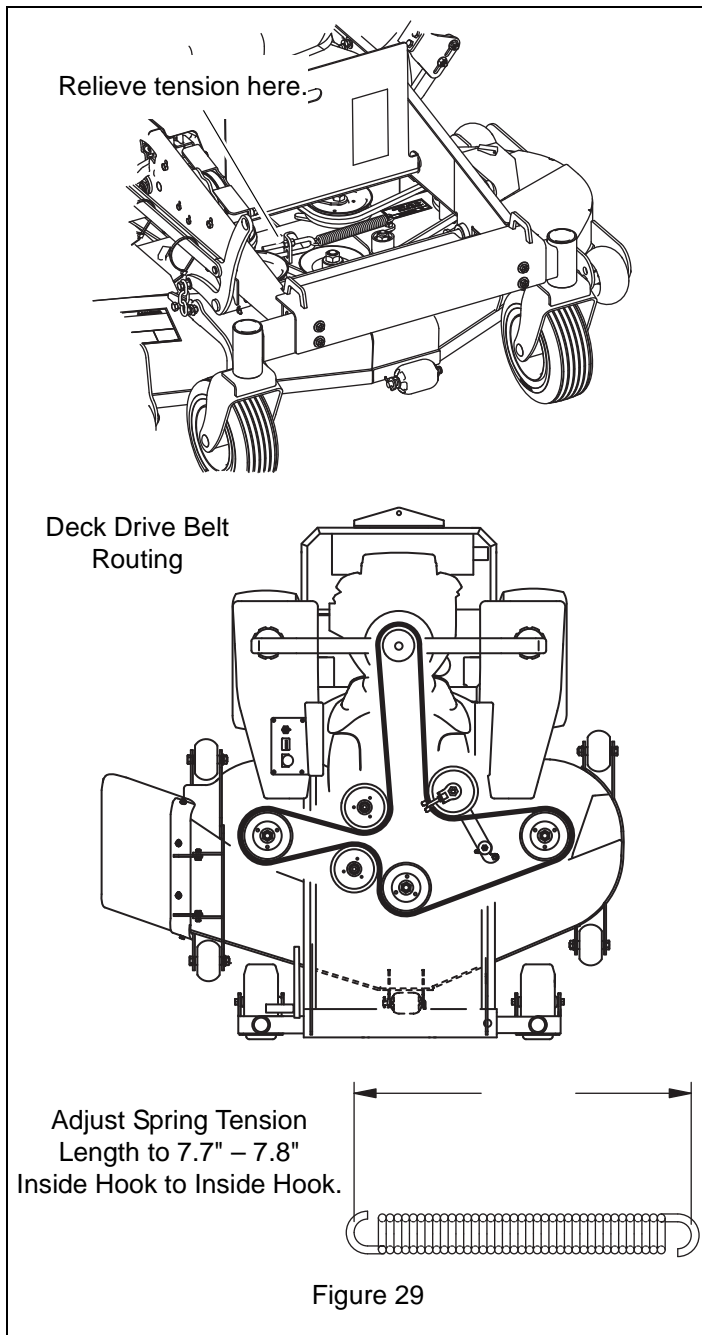

Figure 29
3. Install a new drive belt, making sure it is routed according to the decal on the bottom of the floor pan, see figure 29.